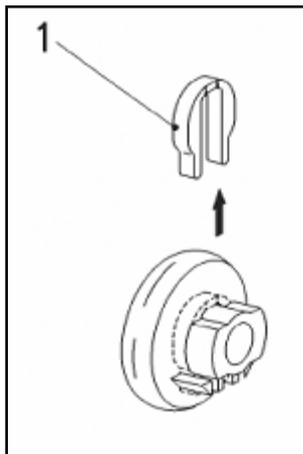

Figure 5-23: Retaining Clip
3. Pull the basket runner out far enough so that the clip (Figure 5-23, Item 1) between the bolt on the cabinet wall and the basket runner is visible.